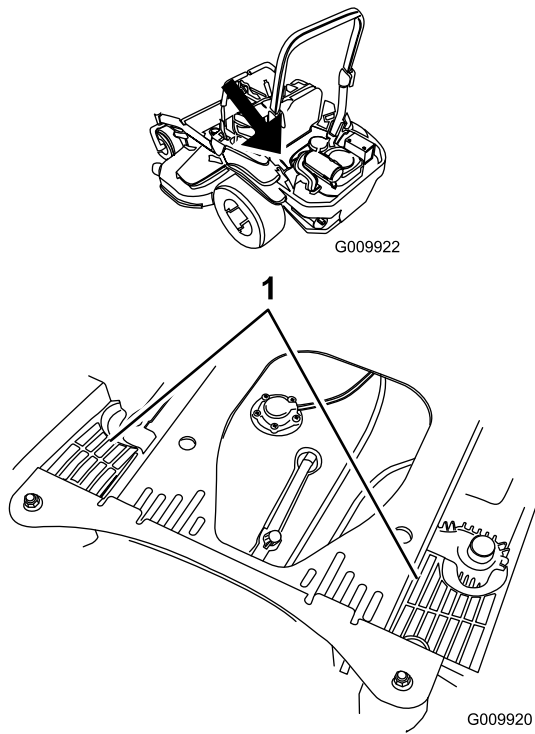

Figure 79
4. Clean the debris and grass from the hydraulic unit shrouds (Figure 79).